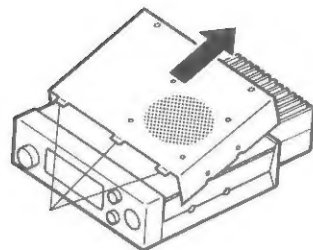

Fig. 1
2. Gently remove the top cover. (Fig. 1)